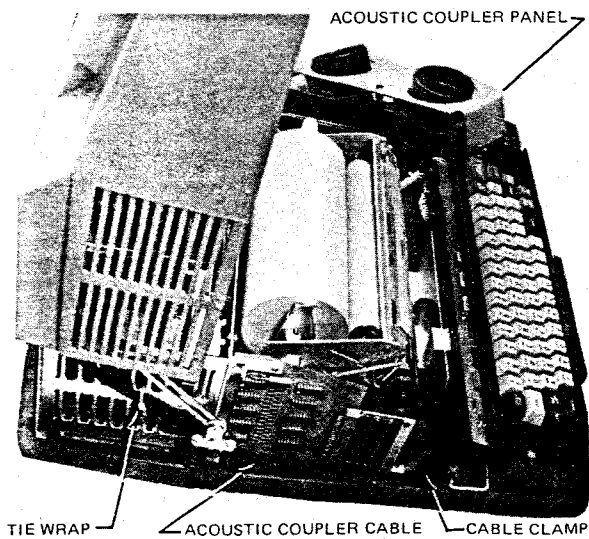

FIGURE 2-7.6. INSTALLING THE ACOUSTIC COUPLER PANEL CABLE
f. Install the cable attached to the Acoustic Coupler panel, routing the cable between the keyboard and the printhead cable bracket and between the left side of the PC card rack and the terminal cover, slide support as shown in Figure 2-7.6.
- (1) Remove the protective paper from the self-adhesive cable clamp and press it on the terminal base between the keyboard and the printhead PC card brace as shown in Figure 2-7.6.
- (2) Press the cable into the cable clamp slots.
- (3) Loosely attach the cable to the PC card rack using a cable tie-down strap as shown in Figure 2-7.6.